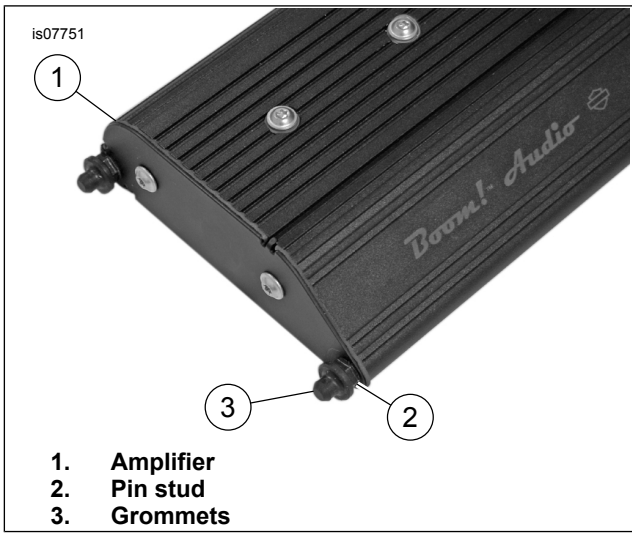

Figure 7. Amplifier Pin Studs
- See Figure 7. Install the amplifier pin studs in the amplifier. Tighten to 9.4–12.2 N-m (7–9 ft-lbs). Install the grommets.